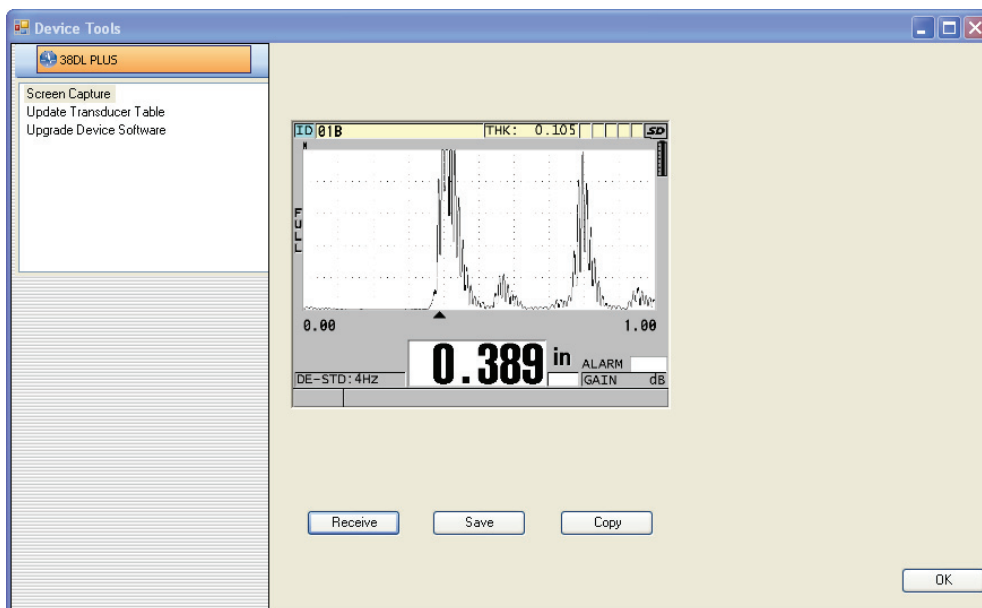

Figure 14-8 The Device Tools dialog box with a screen capture
- b) In the **Device Tools** dialog box (see Figure 14-8 on page 249), select **Screen Capture**, and then click **Receive**.